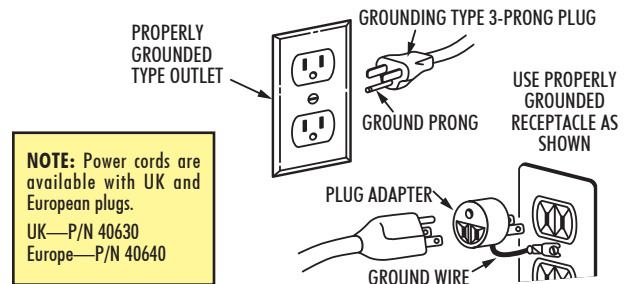

FIGURE 1—Proper grounding for electrical connections.
- 2. Ground All Tools**—If a tool is equipped with a three-prong plug, it should be plugged into a three-hole receptacle. If an adapter is used to accommodate a two-prong receptacle, the adapter wire must be attached to a KNOWN GROUND. Never remove the third prong. (See Figure 1.)